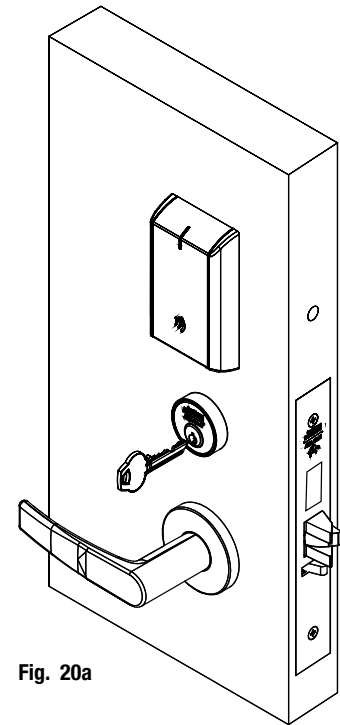

Fig. 20a
- a. Insert key into cylinder and rotate (Fig. 20a).